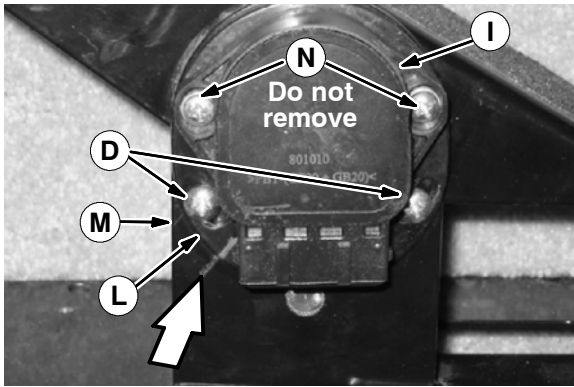

FIG. 4
3. Mark the position of the sensor mounting plate (L) to the support bracket (M). Refer to Fig. 4.
4. Remove the two screws (D) mounting the sensor (I) and plate (L) to the pedal (K). Refer to Fig. 4. **Do not remove the screws (N) of the sensor.**
17. Align the sensor plate with the mark made in Step 6. Refer to Fig. 4.
18. Install the two mounting screws (D) with a small amount of adhesive. Refer to Fig. 4.